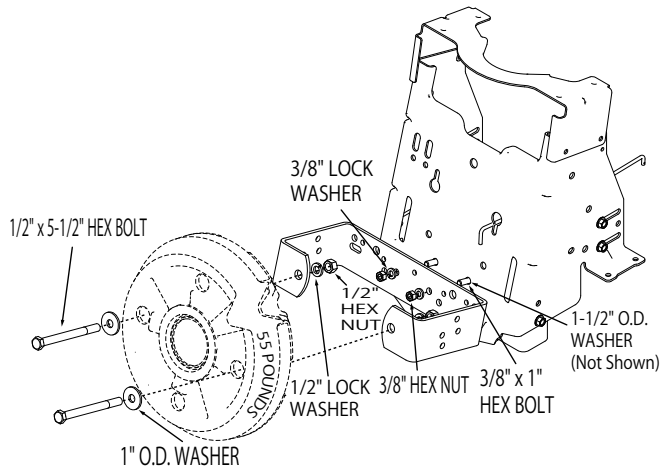

FIGURE 9
1. Assemble two 1.5" O.D. washers (7) onto two 3/8"-16 x 1" hex bolts (3). Insert bolts through drawbar and assemble weight bracket (1) onto bolts. Fasten securely with two 3/8" lock washers (9) and two 3/8"-16 hex nuts (11). See figure 9.
2. Secure wheel weight to weight bracket (1) using two 1/2" x 5-1/2" hex bolts (14), 1" O.D. washers (5), 1/2" lock washers (8) and 1/2"-13 hex nuts (10). Tighten securely. See figure 9.